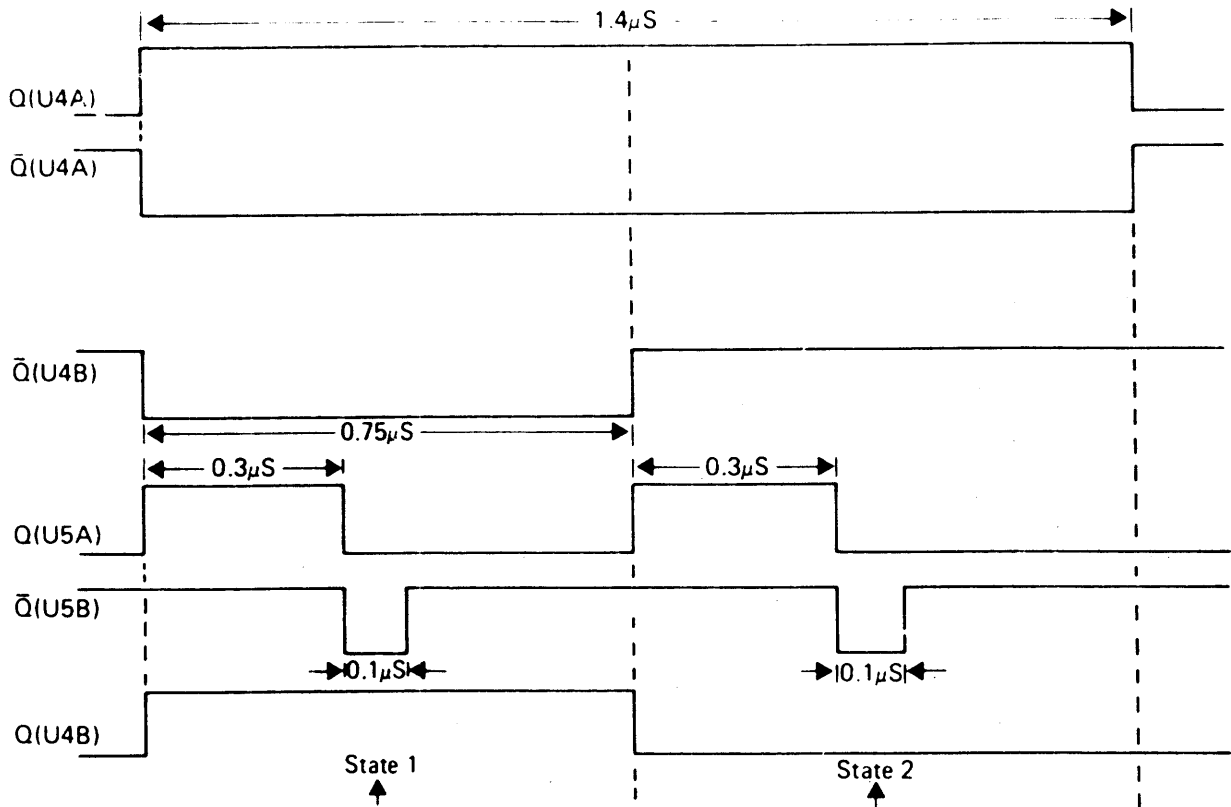

Figure 4.2. Timing Diagram
U4A is triggered with a high going collector output at Q1, and outputs a $1,4 \mu\text{s}$ pulse, refer to the timing diagram below (Figure 4-2).
- If with the first cassette operation Error 43 occurs in the calculator display, check U4 and U5 for correct output pulses (refer to the timing diagram, Figure 4-2) and replace if defective.